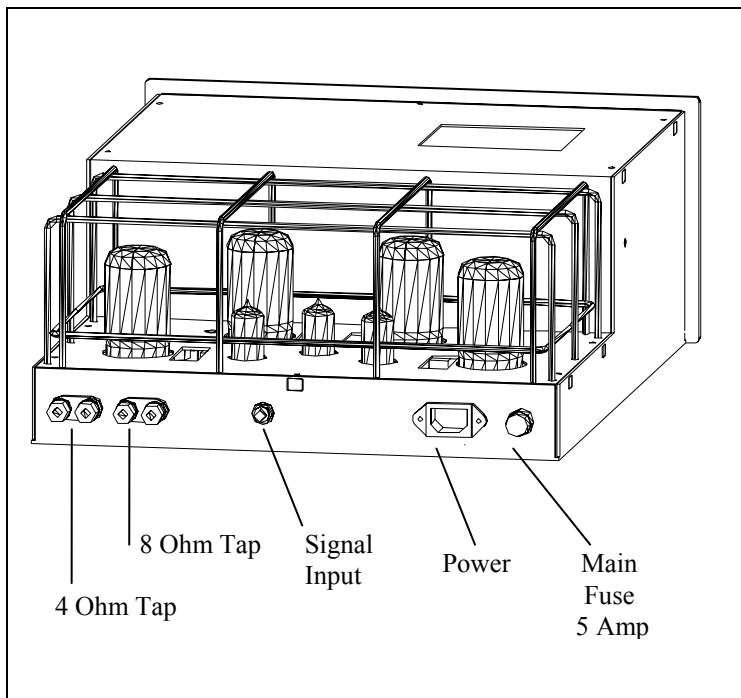

Figure 4
- 5) *Matching Speaker Impedance* - The Rogue M-120 provides separate binding posts positions for both 4 ohm and 8 ohm speakers, as shown in Figure 4. The impedance selected will depend on the speakers used. Consult either the owner's manual for your speaker or your local dealer for the correct choice.
- 8) *Attach Power Cord* - Connect the IEC end of detachable power cord to the amplifier, and plug opposite end into corresponding outlet. See Figure 4.
- 10) *Connections to other components* -. The input connections from the preamplifier are made via RCA jacks on the rear of the amplifier. Be sure to use high quality interconnect cables - they do make a difference. See figure 4.